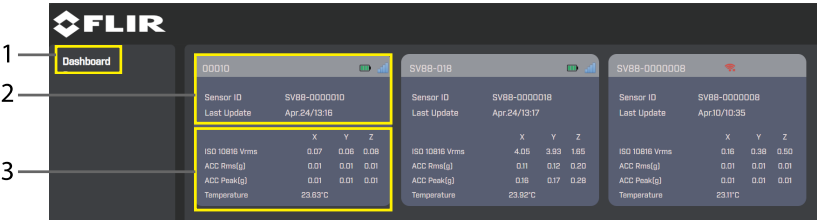

Figure 11.1 The main Dashboard for the web-based user interface, built-in to the GW66.
9. When you successfully connect with the GW66 Wi-Fi network and access the user interface, the Dashboard screen, shown below, in Figure 11.1.
The Dashboard is the first page that appears in the interface. Here you can select other pages and view connected sensor data. Refer to Figure 11.1, below for details.